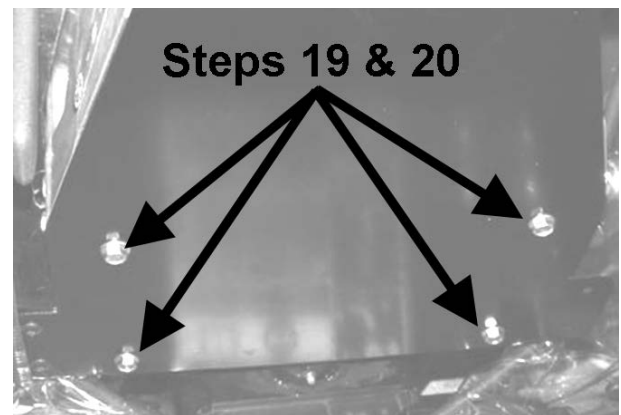

FIGURE 12
18. Remove the existing front cover panel located under the steering wheel from the machine. Retain the hardware. **Figure 12**
19. Install the new front cover panel (**Item 5**) using the bolts removed in previous step. **Figure 12**